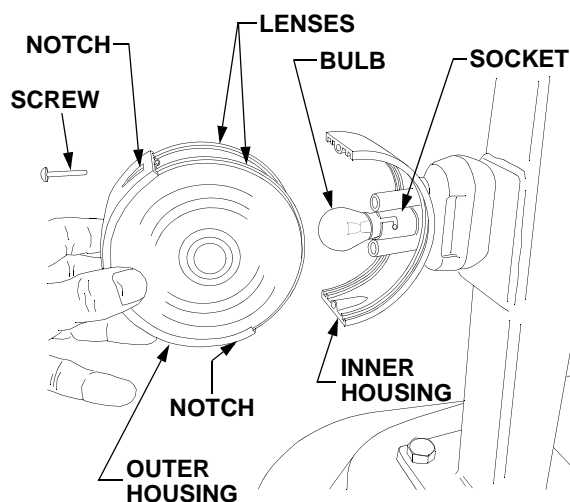

Figure 35
- Grasp the outer half of the light housing and both the front and rear lenses. Accessing the screws from the notches at the top and bottom of the outer housing, remove the two screws fastening the outer and inner housings together. See Figure 35.